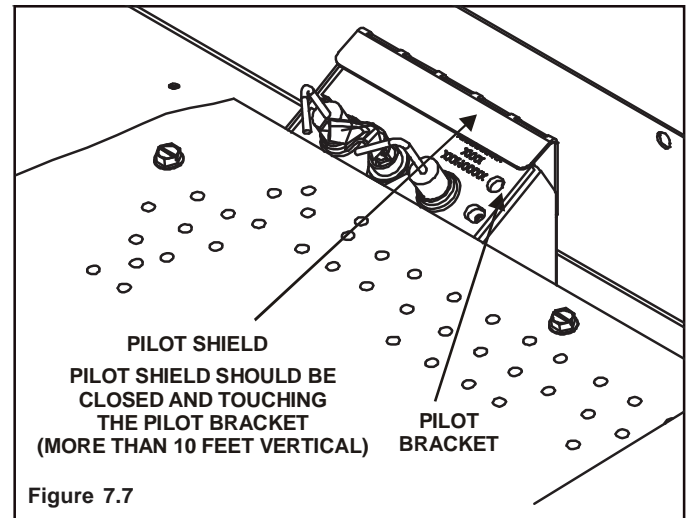

Figure 7.7
**Note:** When venting this unit with high vertical (10 feet or more) with very little horizontal the pilot shield will need to be in the closed position (see Figure 7.7).